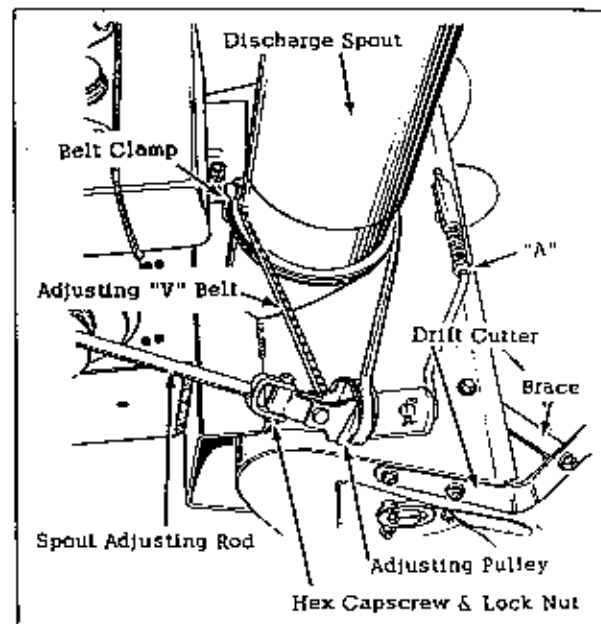

Fig. 4
5. Apply a coating of light oil to the neck of the discharge spout mounting collar, and install the spout in place on the rotor housing as shown in Figure 4. The application of oil is necessary to prevent rust and to allow the spout to rotate freely.
Clamp the "V" belt around the spout as shown in Figure 4, and loop the belt around the adjusting pulley. Connect the lower end of the spout adjusting handle to the adjusting pulley as shown in Figure 4, using a hex capscrew and lock nut. Adjust the tension of the "V" belt by turning the hex nut at point "A" in Figure 4. Avoid excessive tension.
The 25" Sno Away has as standard equipment, drift cutters which are to be attached to the blower housing. The righthand and the left hand cutter are identified on page 8, and are attached to the housing with capscrews provided, as shown in Figure 4. The braces are then bolted between the cutters and the housing.